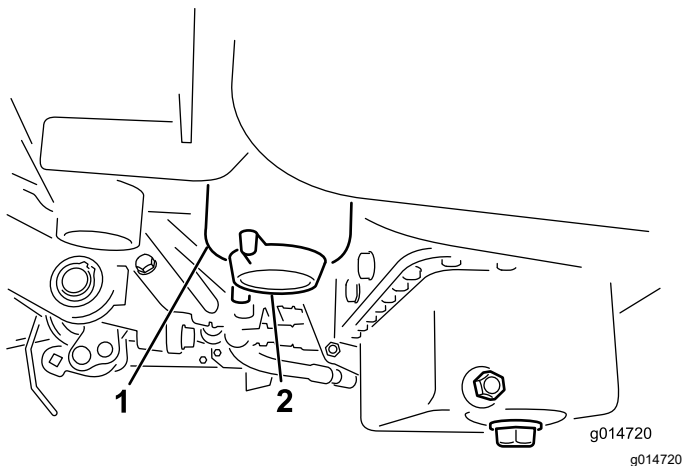

Figure 38
3. Open the drain plug on the fuel filter approximately one turn and drain any accumulated water (Figure 38).